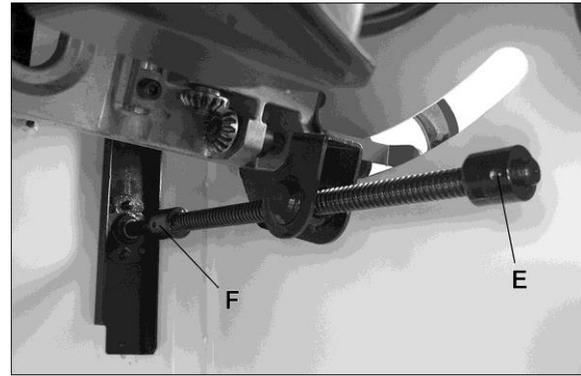
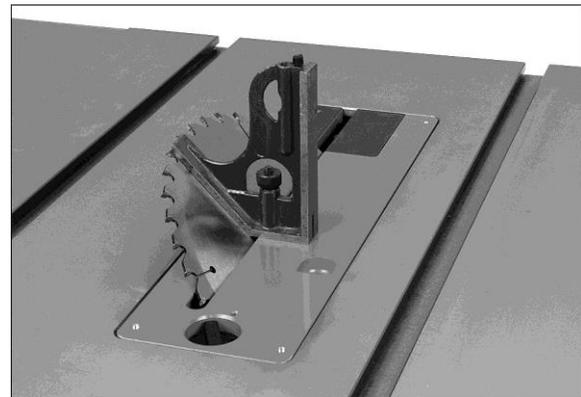

Figure 7-3
Figure 7-4
6. Back out the setscrew in the 90° stop collar (E, Figure 7-3), and position collar to allow further movement of shaft bracket.
8. Turn stop collar until it contacts shaft bracket, and tighten set screw (E).
9. Tilt blade to 45° and verify setting in the same manner as above. See Figure 7-4. Adjust 45° stop collar as needed (F, Figure 7-3).